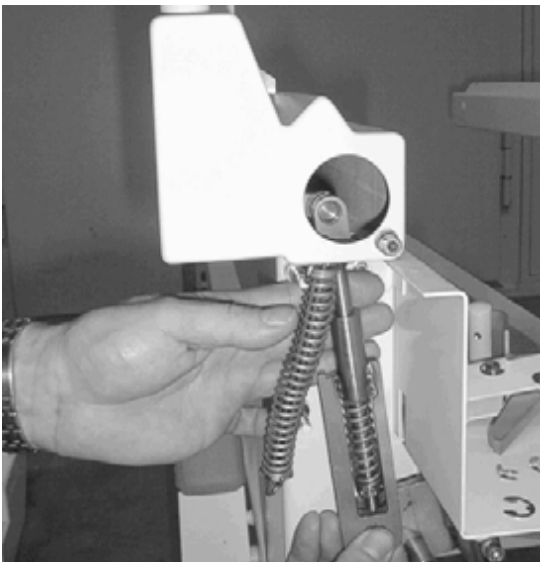

Fig. 64:
- Grasp the damper as shown in \(1/ Fig. 64 / p. 56\) and pull it off the cam lever pin in a rocking motion.